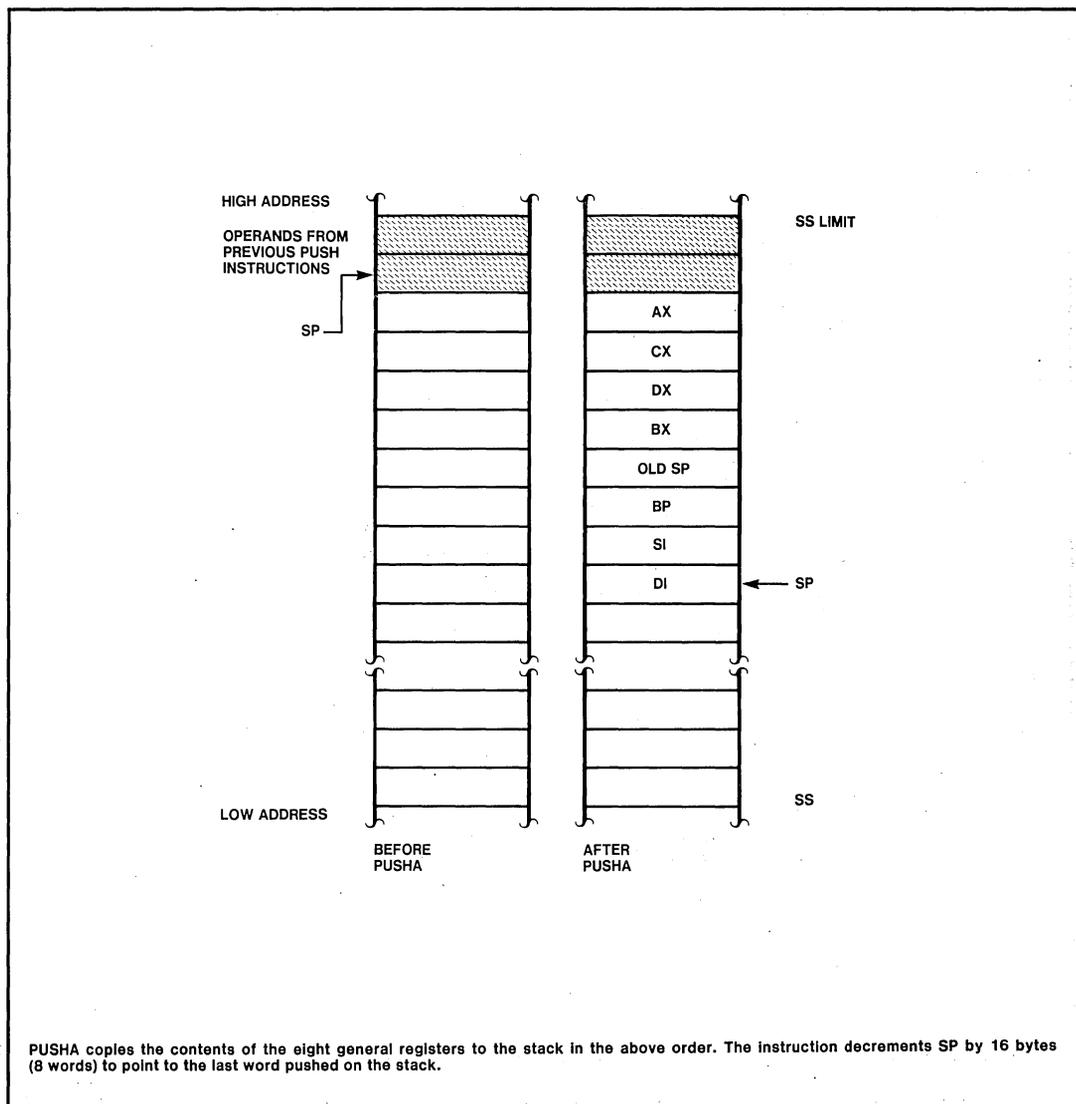

Figure 3-2. *PUSHA*
*PUSHA* (*Push All Registers*) saves the contents of the eight general registers on the stack. See figure 3-2. This instruction simplifies procedure calls by reducing the number of instructions required to retain the contents of the general registers for use in a procedure. *PUSHA* is complemented by *POPA* (see below).